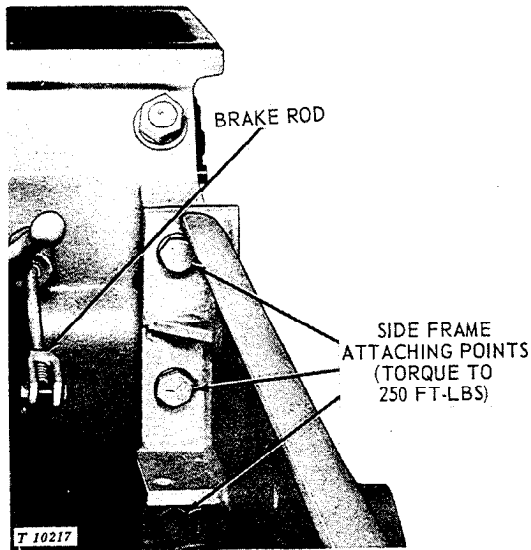

Fig. 20-20-4—Removing Side Frame Cap Screws
10. Remove cap screws attaching floor plate to transmission top cover. Remove the cotter pin, washer and pin attaching brake rod yoke to brake lever shaft (Fig. 20-20-4).
11. Remove the three cap screws attaching side frame to clutch housing (Fig. 20-20-4).
Attach side frame to steering clutch housing and tighten to 250 ft-lbs torque (Fig. 20-20-4).
Secure brake rod yoke to brake lever shaft with pin, cotter pin and washer (Fig. 20-20-4). Install floor plate on tractor.